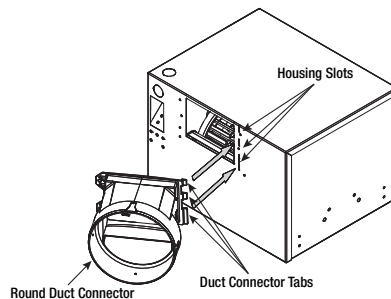

Figure 4 — Insert Duct Tabs to Housing
1. Insert duct connector tabs into the housing slots, shown in Figure 4.